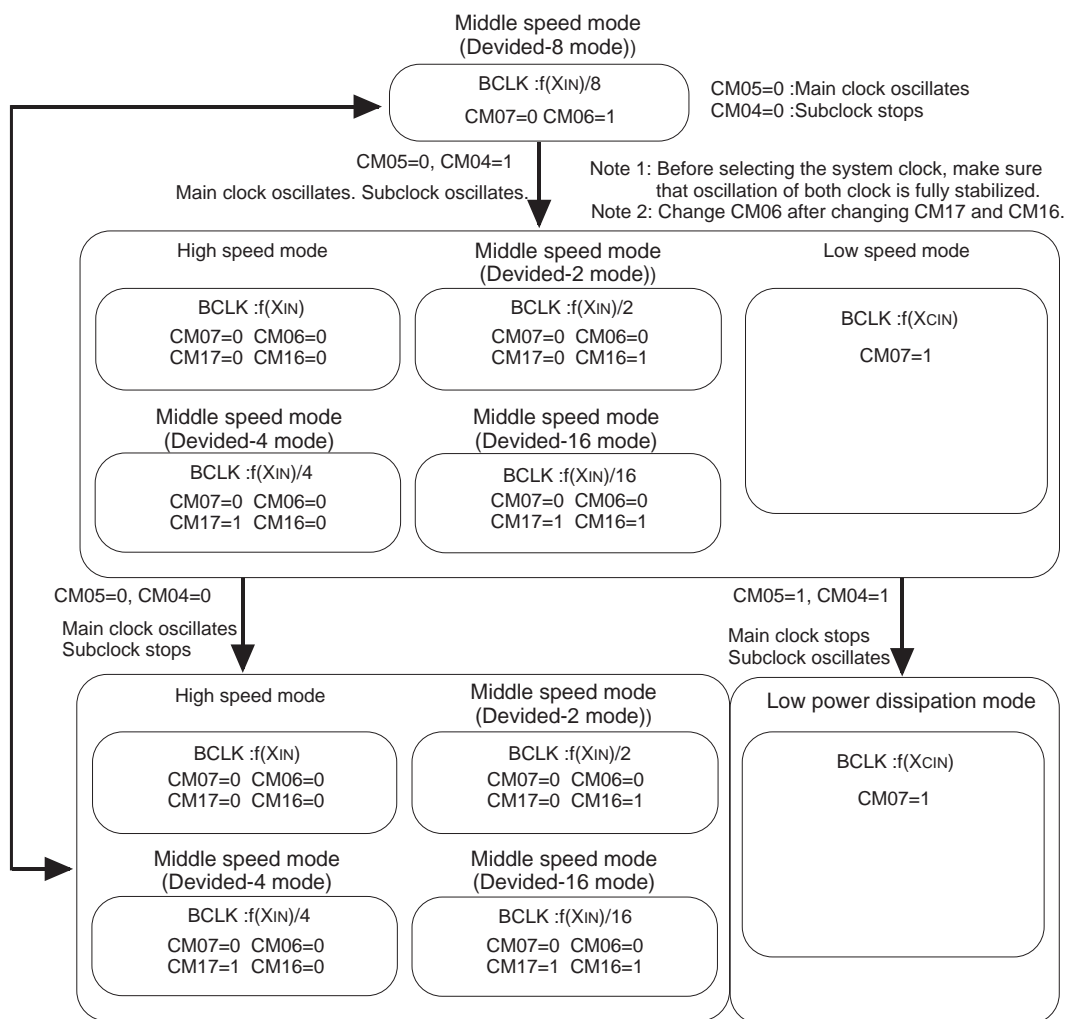

Figure 20. Clock transition
Figure 20 shows the transition between each of the three modes, (1), (2), and (3).